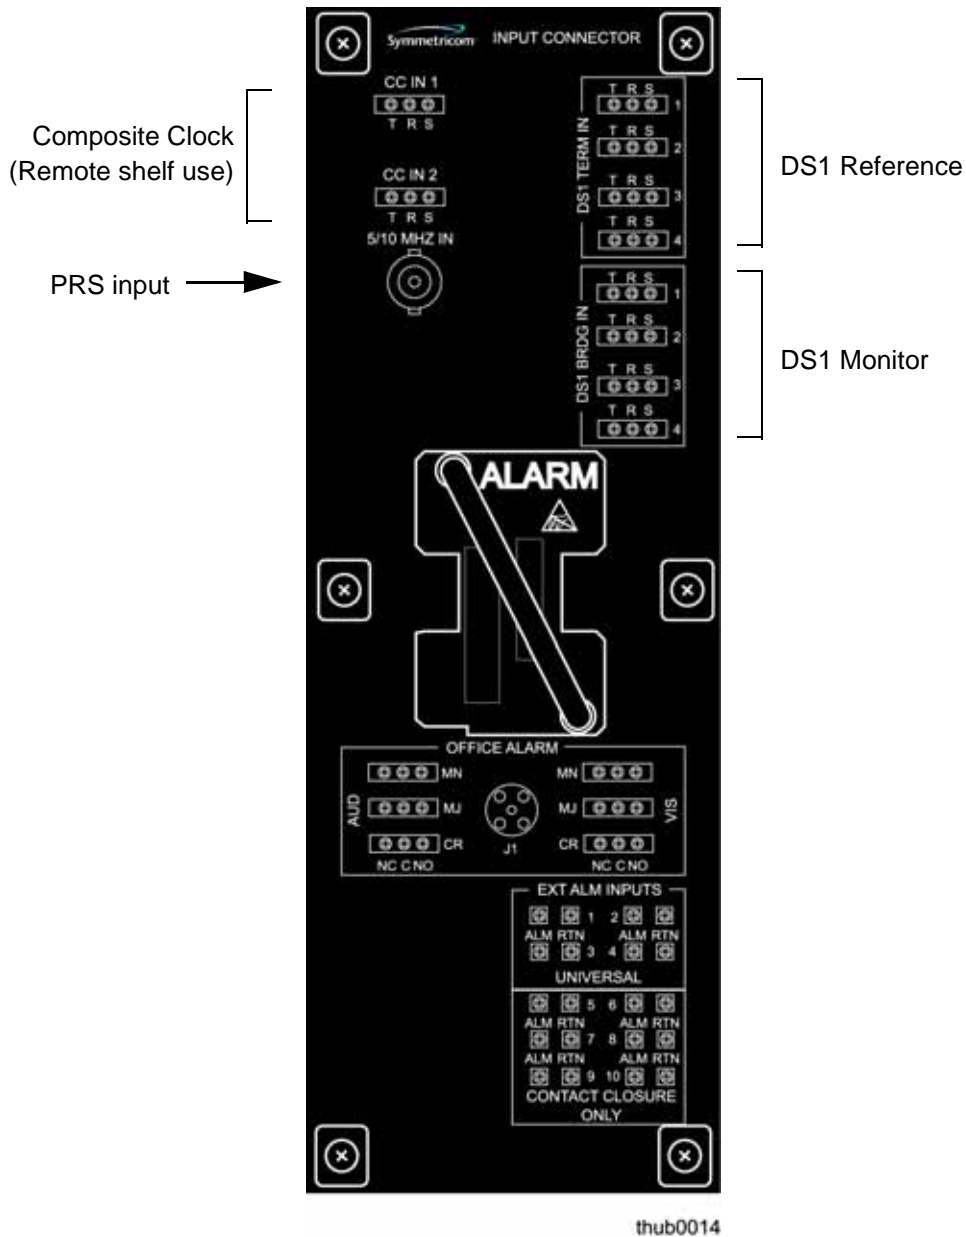

Figure 3-17. Input/Alarm Connector Module Connections
You make all timing input connections on the Input/Alarm Connector module (Figure 3-17). Install the module as described in Installing the Input/Alarm Connector Module, on page 78.
The Office alarms provide normally-open, center, and normally-closed contact pins. You connect the office alarms to the OFFICE ALARM critical (CR), major (MJ), and minor (MN) wire-wrap pins on the Input/Alarm Connector module. See Figure 3-17 for the location of the pins.
Connect the external alarm inputs (customer-configured alarm inputs) to RACK ALM INPUTS wire-wrap pins 1 through 10 on the Input/Alarm Connector module. See Figure 3-17 for the location of the pins.